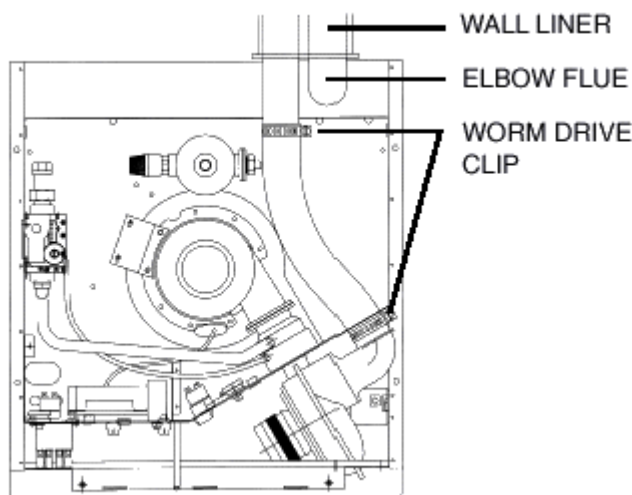

Fig. 17.3
- See Fig. 17.3. Slip a worm drive clip over both ends of flexible inlet duct. Push one end of the duct over the spigot on fan inlet and secure with clip.